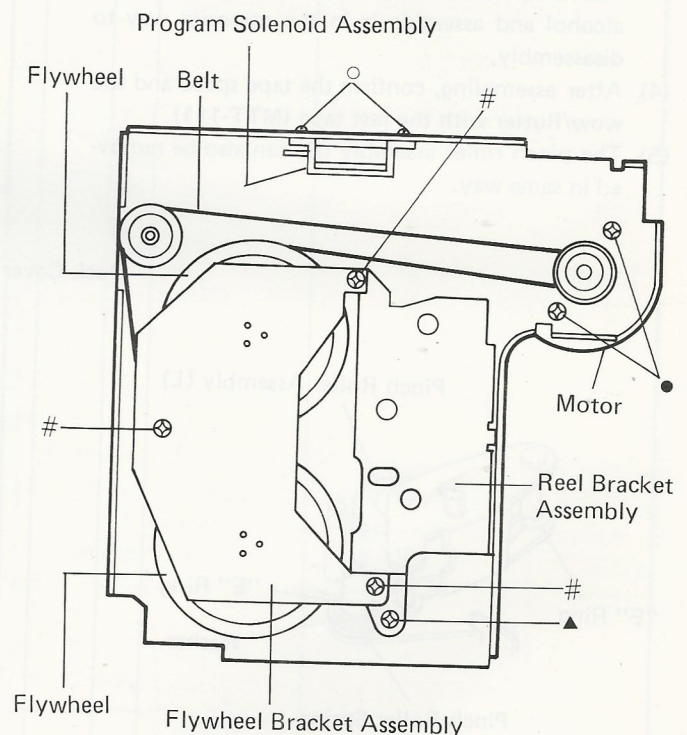

Figure 6
- (1) Remove two screws marked "●" as shown in Figure 6.
- (2) Remove a lead wire from the motor side to remove the motor.
- (3) After replacing the motor with a new one, assemble it in the opposite way to disassembly.
- (4) After assembling, confirm the tape speed and the wow/flutter with the test tape (MTT-111).
- (1) Remove two screws marked "○" as shown in Figure 6 to remove the program solenoid.
- (2) After replacing the program solenoid with a new one, assemble in it the opposite way to disassembly.
- (1) Remove three screws marked "#" and the flywheel bracket as shown in Figure 6 to take off the belt and the flywheel.
- (1) Remove two flywheels.
- (2) Remove one screw marked "▲" as shown in Figure 6.